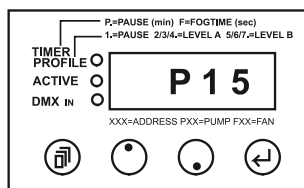

Fig.2: Adjusting the fan output
- 3) Press the Mode-button again until an F and two figures appear on the display (see Fig. 2).